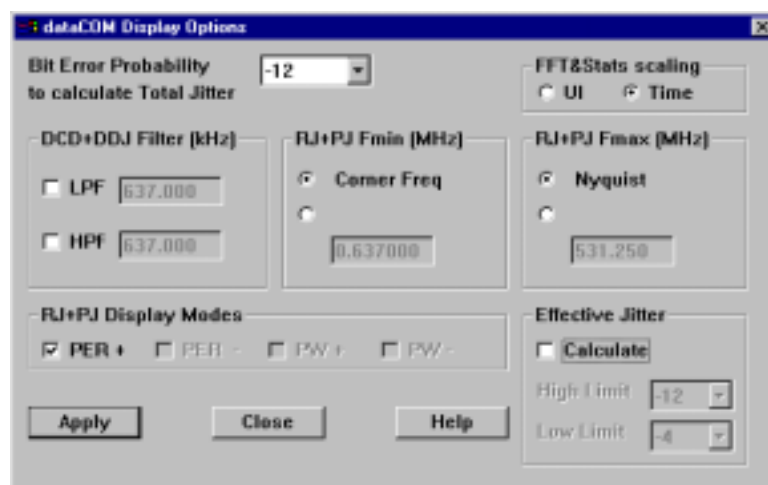

**Figure 4.34 Advanced Acquire Options**
- **Advanced** - Provides access to additional acquisition parameters. (See Figure 4.34.)